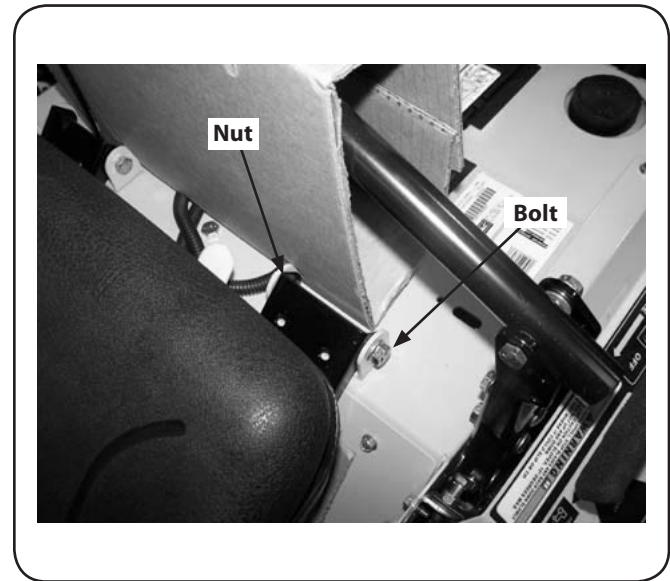

Figure 1-2
2. Remove the two shoulder bolts, nuts and spacers securing the seat as shown in Figure 1-2.